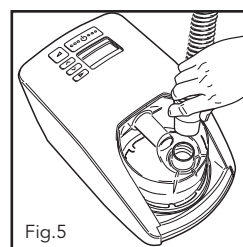
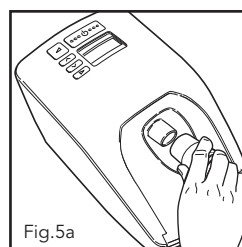

Fig.5
Fig.5a
4. One end of the tube has a white plastic connector. Push this onto the outlet on top of the chamber (Fig.5) or CPAP outlet (Fig.5a) .